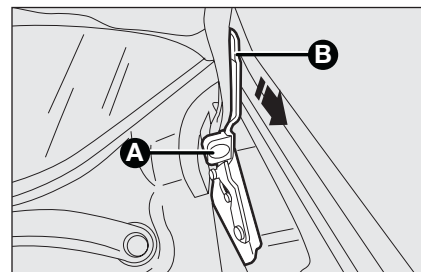

fig. 96
- ☐ lift the hood with one hand and with the other pull toward you the device **A**-fig. 96 and then lower the lever **B**;